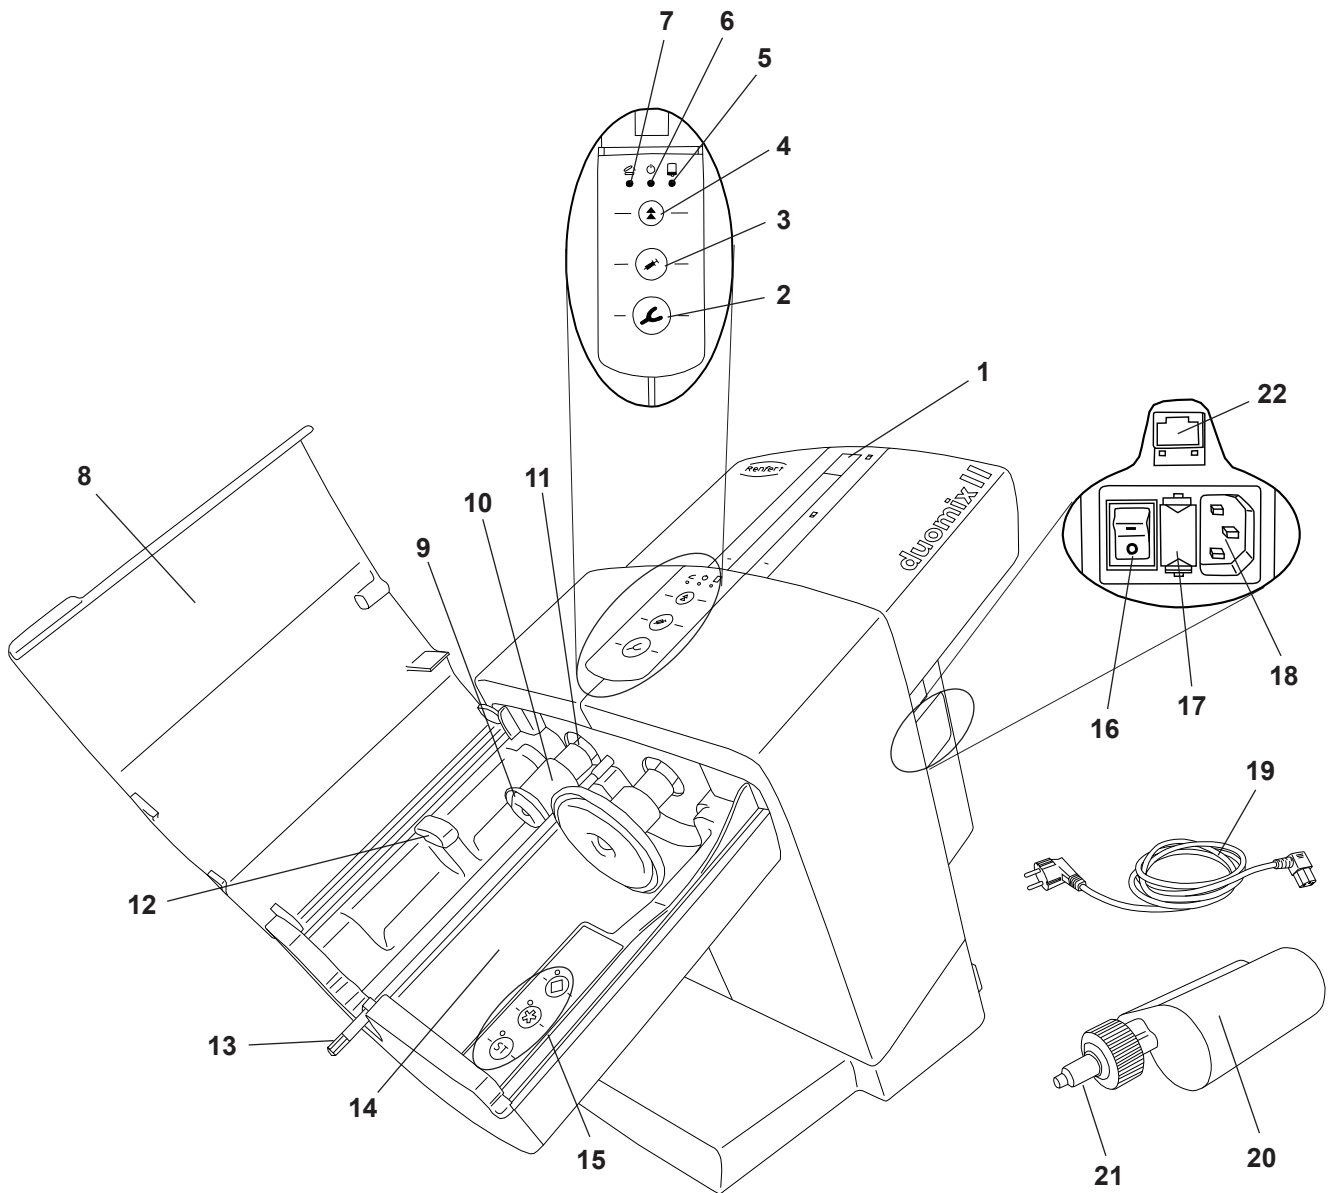

Fig. 1
⇒ Connect the provided power cord (19, Fig. 1) to the mains connection socket (18).
⇒ Close the unit cover (8, Fig. 1).
- ◆ The pressure discs (9, Fig. 1) retract to their home position where they stop.
A cartridge can only be installed or replaced if both pressure discs (9, Fig. 1) are in their home position.
⇒ Open the unit cover (8, Fig. 1).
The cover will only close if the cartridge has been properly installed. The red “Unit cover open” LED (7, Fig. 1) will remain on until the unit cover has been properly closed.
◆ The mixing hexagon (13, Fig. 1) starts to turn and threads its way automatically into the mixing nozzle (21, Fig. 1) and then stops again.